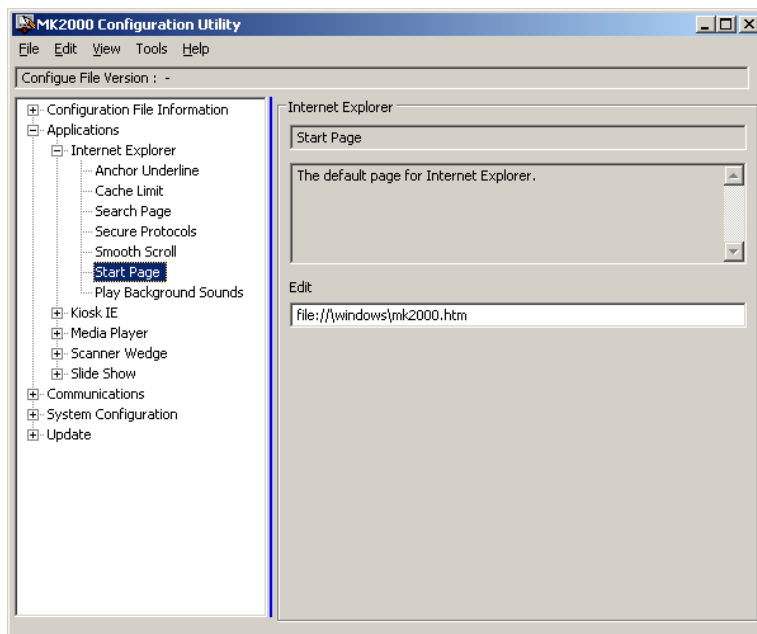

Figure 4-7 Changing Configuration Parameters Example: Internet Explorer Start Page
See Figure 4-7 for a sample screen, and Data Entry Formats on page 4-27 for **MK2200 Configuration Utility** window data entry field types used when changing configuration options.
3. Make the necessary changes to the default values in the configuration file. See Default Parameters on page 3-6 for these options. Also see Figure 4-7 for a sample screen, and Data Entry Formats on page 4-27 for **MK2200 Configuration Utility** window data entry field types used when changing configuration options.